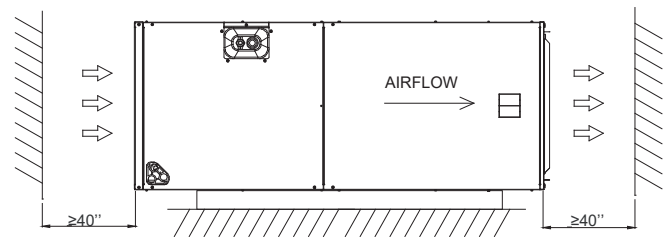
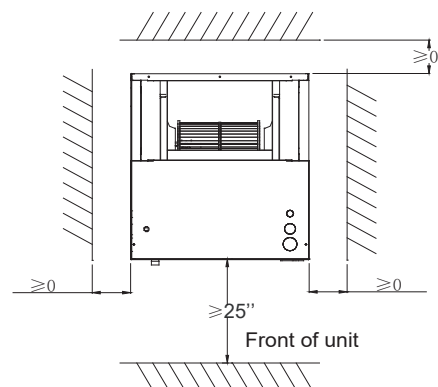

Fig.2 CLEARANCES IN THE HORIZONTAL POSITION
Fig.3 CLEARANCES IN THE VERTICAL POSITION
See Fig.2 and Fig.3.
- Low voltage control connections are made to low voltage pigtails extending from top of air handler (upflow position - see Fig3).